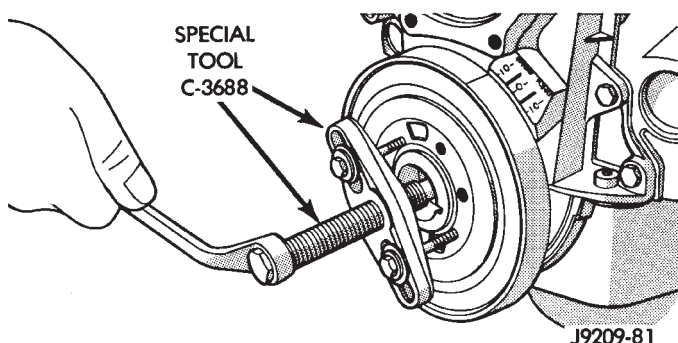

Fig. 21 Vibration Damper Assembly
(1) Disconnect the negative cable from the battery.
(2) Remove fan shroud retainer bolts and set shroud back over engine.
(3) Remove the cooling system fan.
(4) Remove the serpentine belt (refer to Group 7, Cooling System).
(5) Remove the vibration damper pulley.
(6) Remove vibration damper bolt and washer from end of crankshaft.
(7) Install bar and screw from Puller Tool Set C-3688. Install 2 bolts with washers through the puller tool and into the vibration damper (Fig. 21).